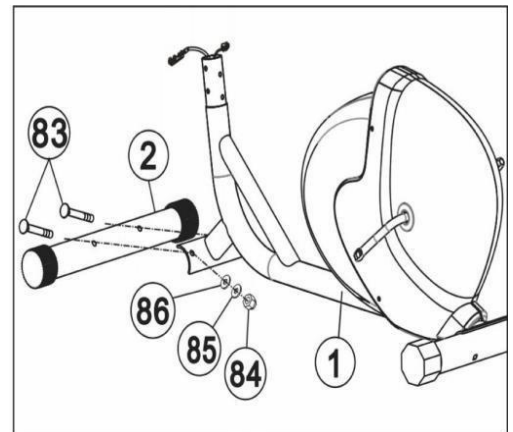

Figure 2
Attach the Front stabilizer (2) to the Main Frame (1) with two sets of M8×20 Bolts (84), Φ8 spring washers (86), and Φ8 Flat washers (85). (Refer figure 2)